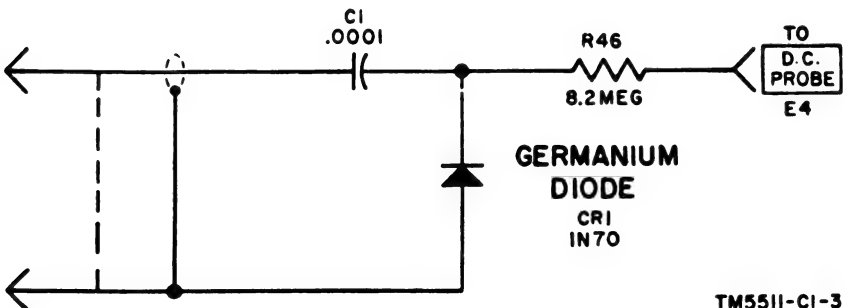

Figure 11. (Superseded) RF adapter, schematic diagram.
a. Except for the addition of the RF adapter (fig. 11), the RF voltage measurement circuit is the same as the dc measurement circuit described in paragraph 37.